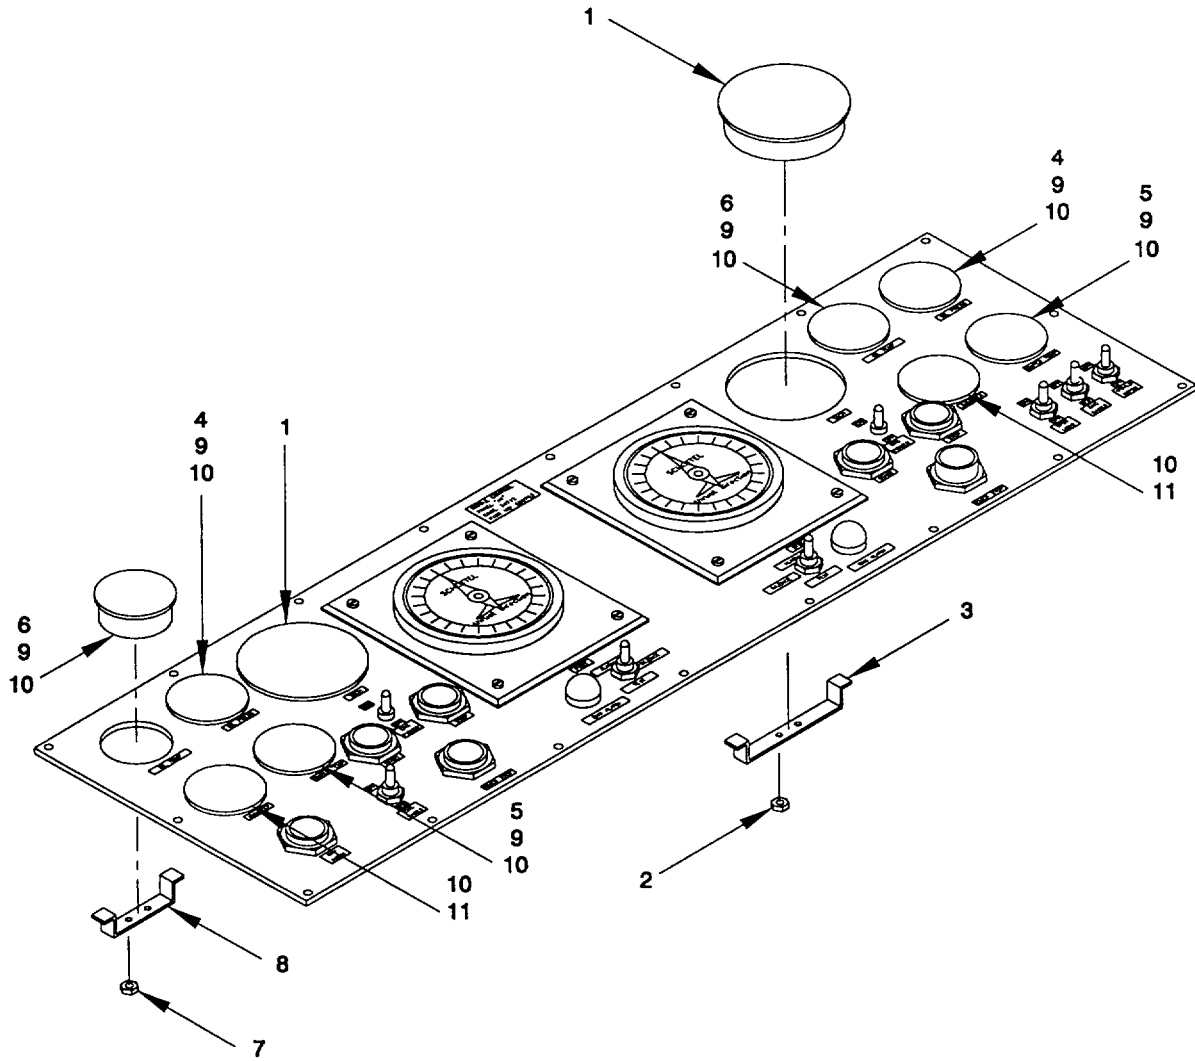

Figure 2-115. Gauge, Middle Control Panel "A1", Remove/Install
a. *Remove.* (figure 2-115)
- (1) For removal of the tachometer gauges M5 and M6 (1), tag and disconnect the wiring from the gauge. Refer to Appendix G.
- (2) Remove the hex nut (2) and bracket (3) securing tachometer gauge (1). Remove tachometer gauge (1).
- (3) For removal of the oil pressure gauges M3 and M9 (4), water temperature gauges M1 and M7 (5), and oil temperature gauges M4 and M10 (6), tag and disconnect the wiring from the gauges. Refer to Appendix G.
- (4) Remove the hex nut (7) and bracket (8) from each gauge (4, 5 and 6) and remove gauges (4, 5 and 6).
- (5) Tachometer gauges (1), oil pressure gauges (4), water temperature gauges (5) and oil temperature gauges (6) are fitted with a resistor and 24 VDC bulb. The resistor is installed to the positive (+) terminal of the gauge. The 24 VDC bulb and red filter (10) replaces the 12 VDC bulb supplied with each gauge.
- (6) For removal of the ammeter gauges (11), tag and disconnect the wiring from the gauge. Refer to Appendix G.
- (7) Remove the hex nut (7) and bracket (8) from each gauge (11) and remove gauge (11).
- (8) Ammeter gauges (11) are fitted with red filters (10). The filter covers the 24VDC bulb within the gauge.